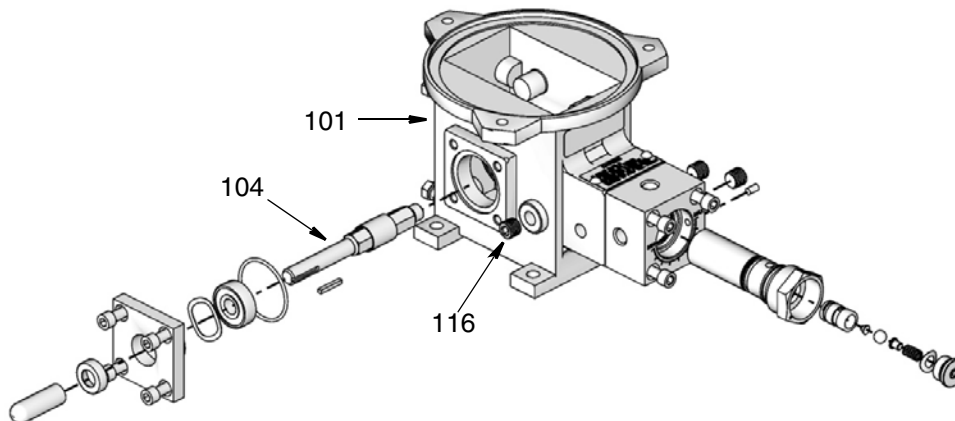

FIG. 10:
3. Remove pipe plug (116, FIG. 10) and drain oil or grease into a suitable, clean container.
4. Install plug (116) after draining is complete.
- a. Remove all guards and mechanical linkages or connections at the pump drive shaft (104).
- b. Remove all attaching hardware securing pump body (101) in place.
- c. Remove all grease or oil from the pump body (101).
Refer to FIG. 10 for reference numbers used in the following instructions.